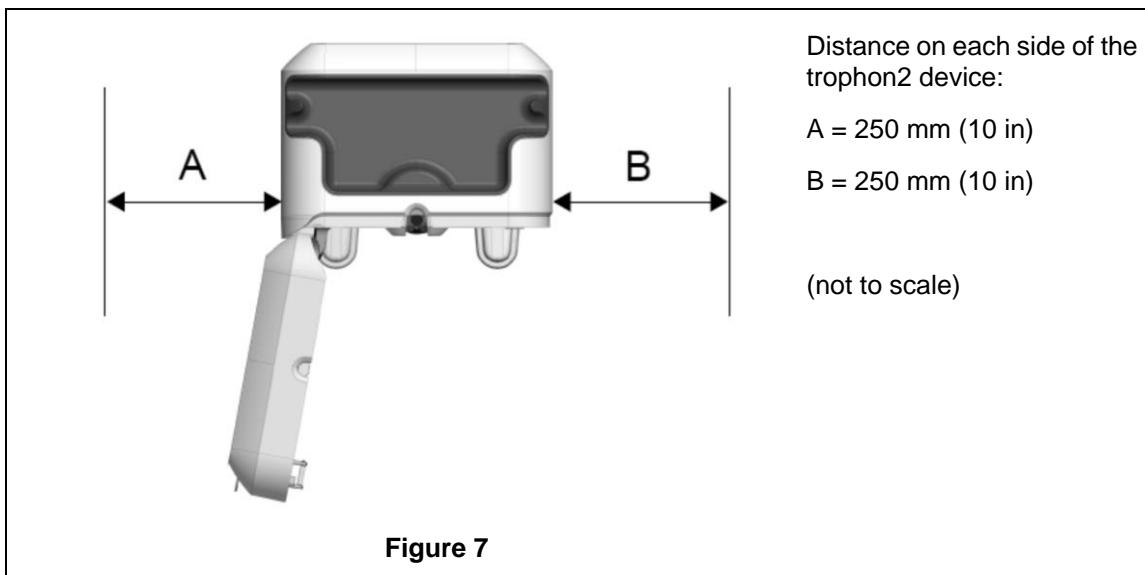

Figure 7
3. Ensure the area around your trophon2 device is free from other equipment and clutter. Position as shown in Figure 7 to ensure access to all features.